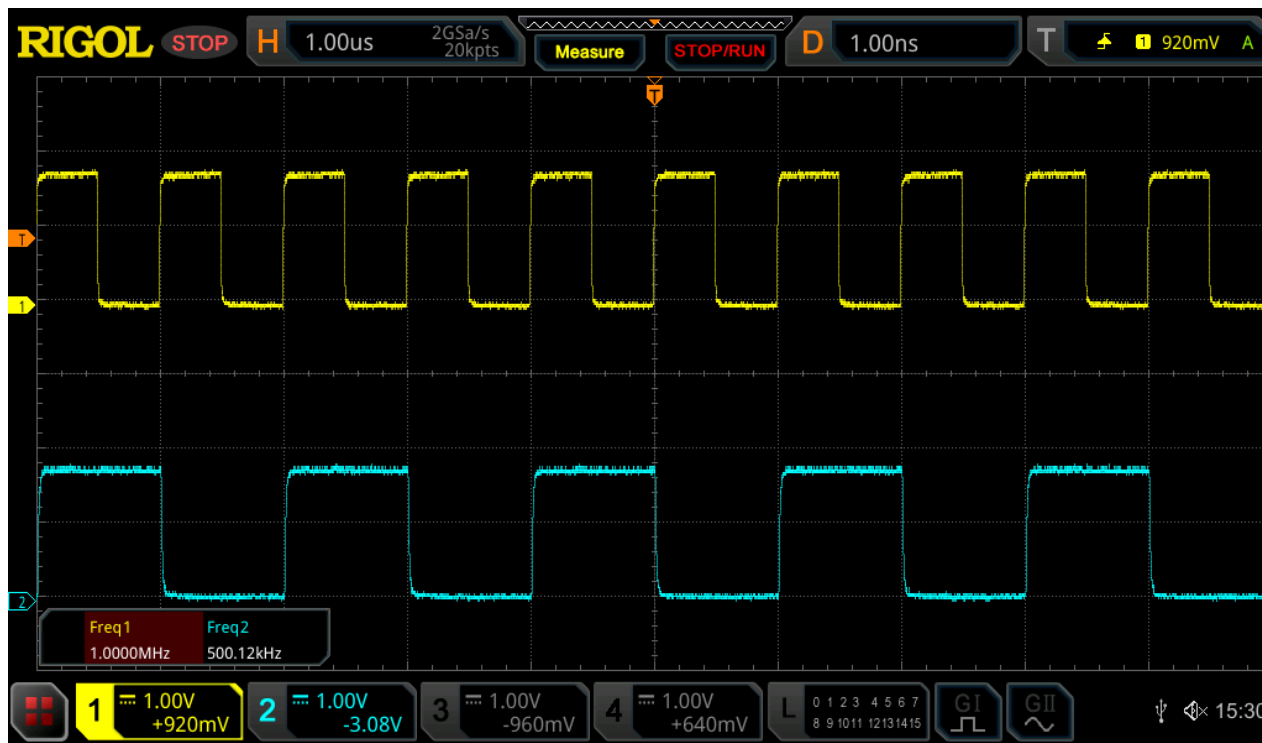

Figure 4: Waveform using External Clock
9. Connect the GPIO0(clk_in) to the Synchronous Logic Generator and produce 1 MHz clock frequency on it and observe the output from GPIO3 on oscilloscope (Figure 4). The input frequency will be divided by two due to flip-flop connected to the output.